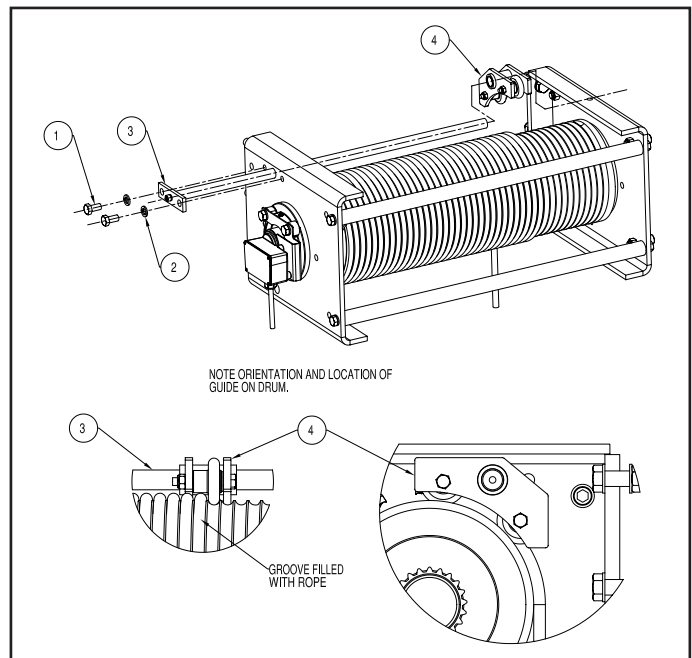

Figure 5-3b. Rope Guide Assembly ("D" Frame)
- (4) Remove the split plastic shroud (Item 2) from the drum. When reassembling the rope guide, be sure the plastic shroud (Item 2) fits snugly in the rope guide body groove.
- (5) Thoroughly clean and inspect all components.
- (6) Follow steps in reverse to reassemble. Be sure to re-grease the rope guide with **MPG** (Paragraph 4-7), after assembling.
- c) **Disassembly for "D" Frame.** Refer to Fig. 5-3b. For further assistance in locating components, refer to the parts list in Section IX.
- (1) Remove hex head cap screws and lock washers (Items 1 and 2). Pull back on drum frame rod assembly (Item 3) until the free end pulls free of the gearcase end drum bracket.
- (2) Slide the rope guide assembly (Item 4) off the end of the drum frame rod and remove from drum groove area. Note the required orientation of the rope guide assembly for re-installation.
- (3) Thoroughly clean and inspect all components.
- (4) Follow steps in reverse to re-install, paying attention to orientation and making sure to seat the assembly into the correct drum groove. Be sure to re-grease the rope guide with MPG (Paragraph 4-7), after assembling.